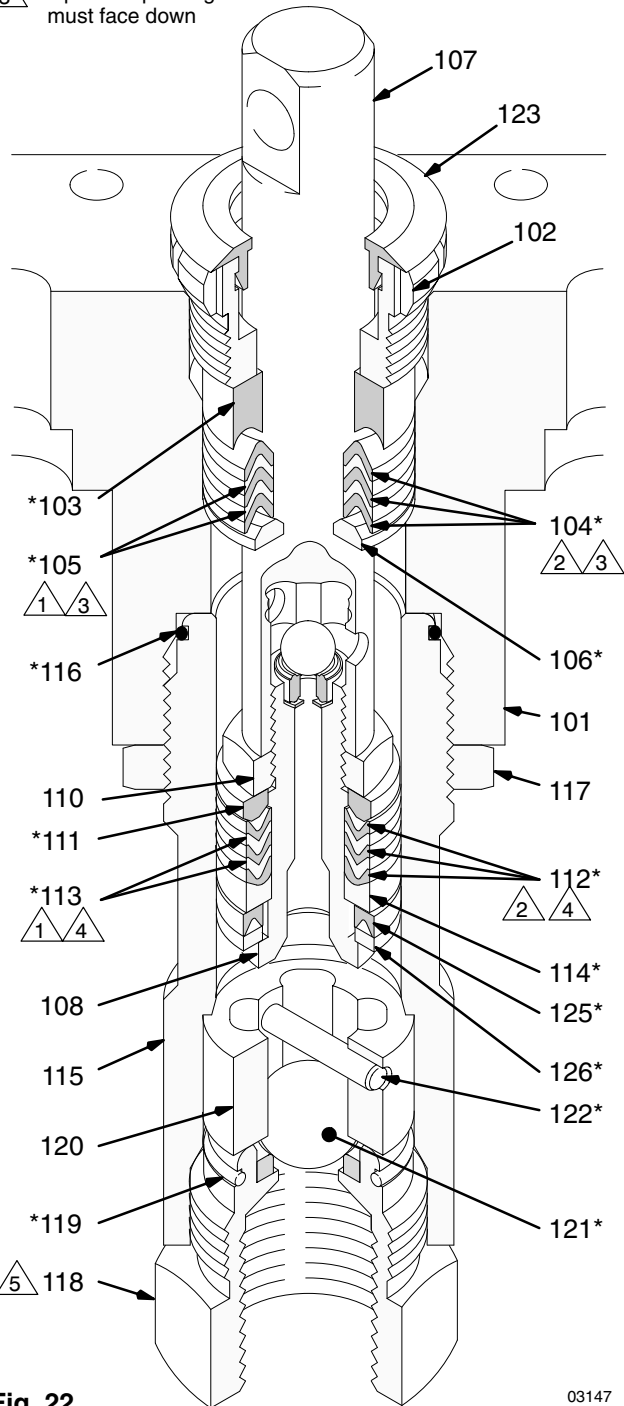

Fig. 22 _____ 03147
- Stack these parts one at a time into the top of the manifold (101): the male gland (106*), alternately three plastic packings (104*) with two leather packings (105*), and then the female gland (103*). See Fig. 22.
- Install the packing nut (102) and plug (123), but leave loose for now. See Fig. 22.
14. Place the ball guide (120), stop pin (122) and ball (121*) in the cylinder (115). Screw the intake valve into the cylinder and torque to 53 ft-lb (71 N.m). This will also properly torque the cylinder into the manifold. See Fig. 22.